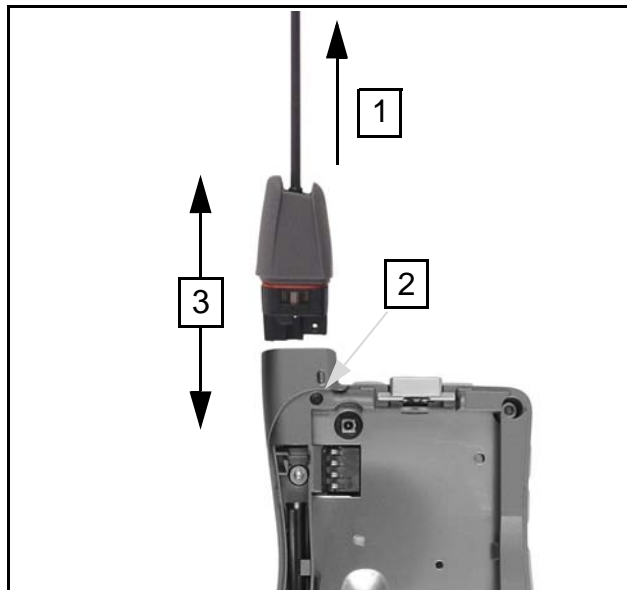

Figure 7-9.
2. Remove T-4 screw completely by turning counter-clockwise. (see Figure 7-9).